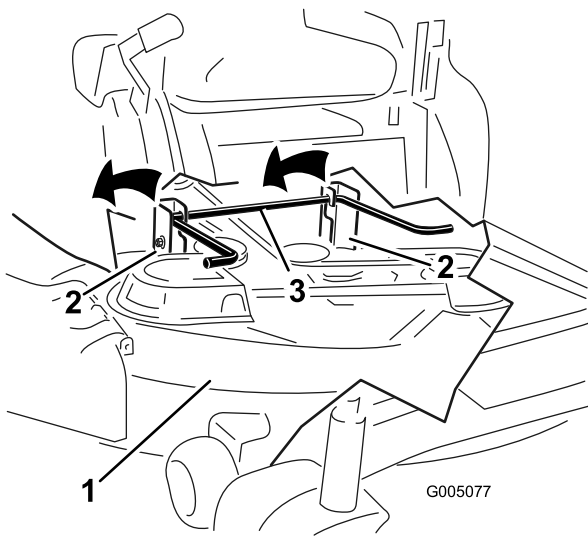

Figure 64
7. Lift the mower deck and hanger brackets clear of the rear lift rod and lower the mower carefully to the ground (Figure 64).
5. Lift the rear of the mower deck and guide the hanger brackets over the rear lift rod (Figure 64).